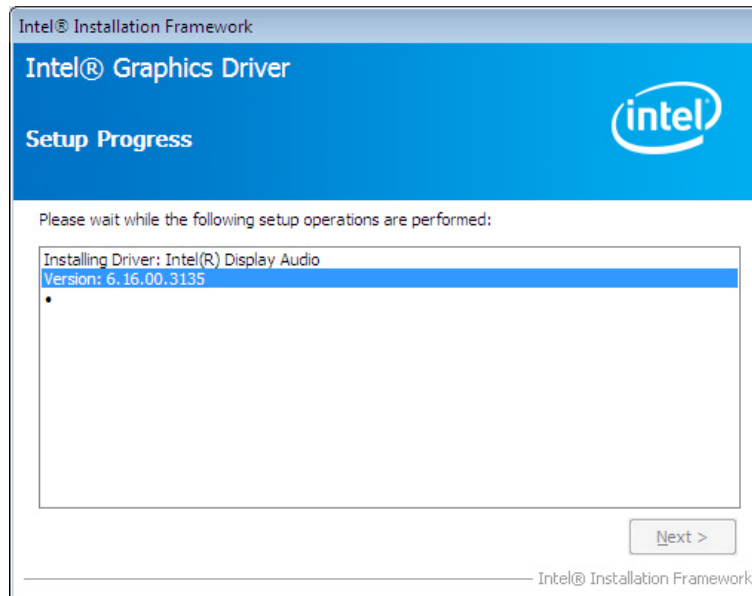

Figure 6-11: Graphics Driver Setup Progress
Step 10: **Setup Operations** are performed as shown in **Figure 6-11**.